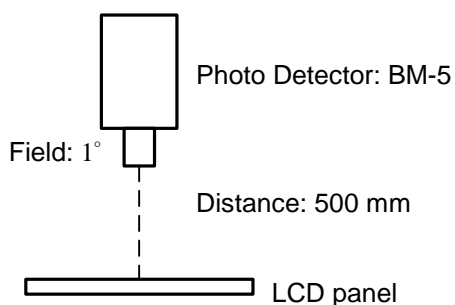

Fig 6.1
- In the dark room around 500~1000 lx, the equipment has been set for the measurements as shown in Fig 6.1.